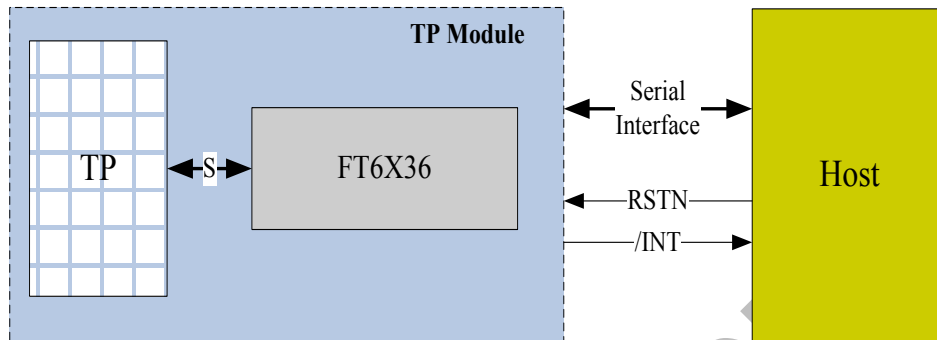

Figure 2-3 Host Interface Diagram
**Host Interface** Figure 2-3 shows the interface between a host processor and FT6X36. This interface consists of the following three sets of signals: